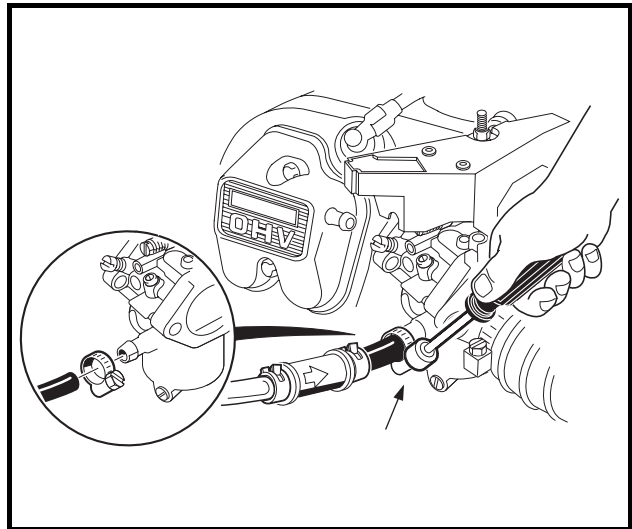

Figure 19-12 Fuel Line
- 4.4. Loosen the hose clamp and then disconnect the fuel line from the carburetor. To prevent spilling fuel, the disconnected end of the line can be plugged with a 1/4-inch bolt (**Figure 19-12, Page 19-7**).